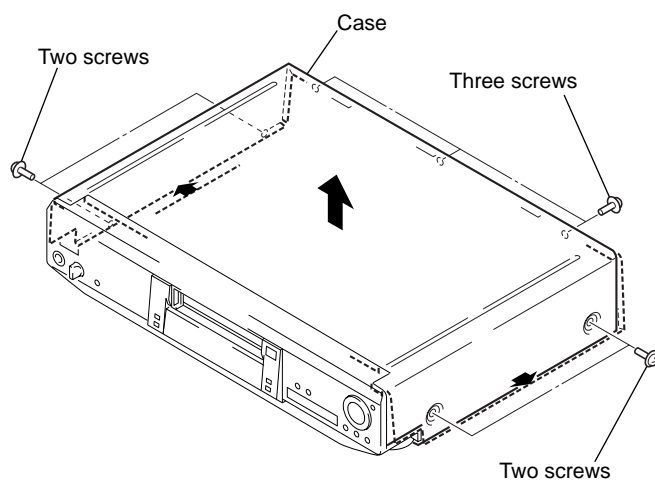

Fig. 1
- 1) Remove seven screws. (See Fig. 1)
- 2) Open the side of case. (See Fig. 1)
- 3) Remove the case as lift straight. (See Fig. 1)